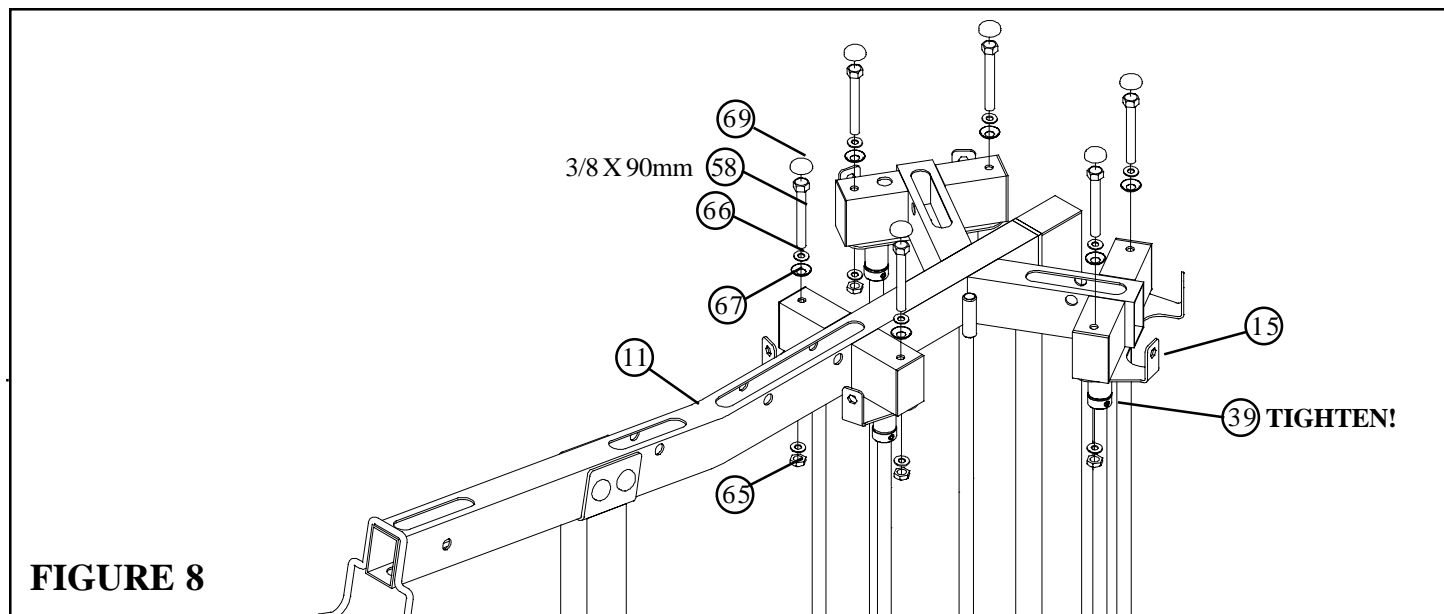

FIGURE 8
- **SECURELY** assemble the three SHROUD BRACKETS (15) to the LAT/LOW BOOM (11) using six RH CAPS (69), six 3/8 X 90mm BOLTS (58), twelve 3/8" SAE WASHERS (66), six 3/8" RH WASHERS (67) and six 3/8" LOW HEIGHT LOCK NUTS (65) as shown in FIGURE 8. (**NOTE: Use RH WASHERS and RH CAPS on top only.**)
- Slide the 13/16" SHAFT COLLARS (39) up against the SHROUD BRACKETS (15) and **SECURELY** tighten the set screws on the SHAFT COLLARS (39). See FIGURE 8.